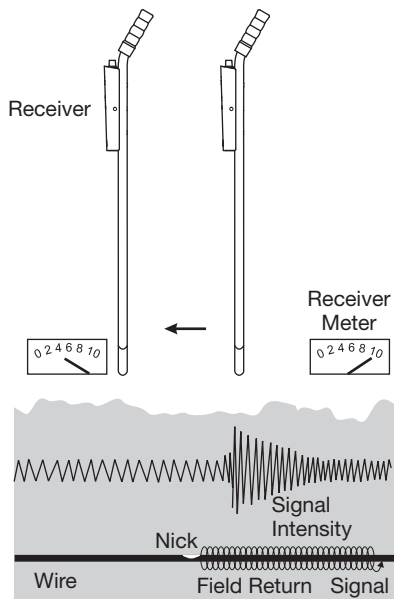

Figure 4 – Locating Wire Nick
- Larger nicks in the wire can be located in almost the same way as locating opens. Follow the null and strong signal along the sides of the wire until the signal becomes very weak along the sides of the null. This will occur within a relatively short distance. The transmitted signal bleeds to ground at the nick and then wants to return to the ground stake along the outside of the wire itself. The majority of signals will stop at the nick indicated by the low receiver reading just beyond the nick. (Refer to Figure 4.)